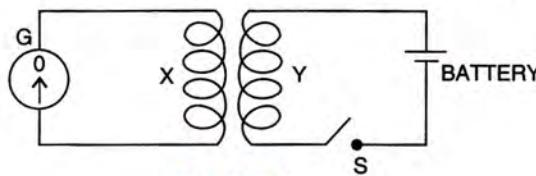

Fig. 10.45
**17.** The diagram in Fig. 10.45 shows a coil X connected to a sensitive centre-zero galvanometer G and a coil Y connected to a battery through a switch S.